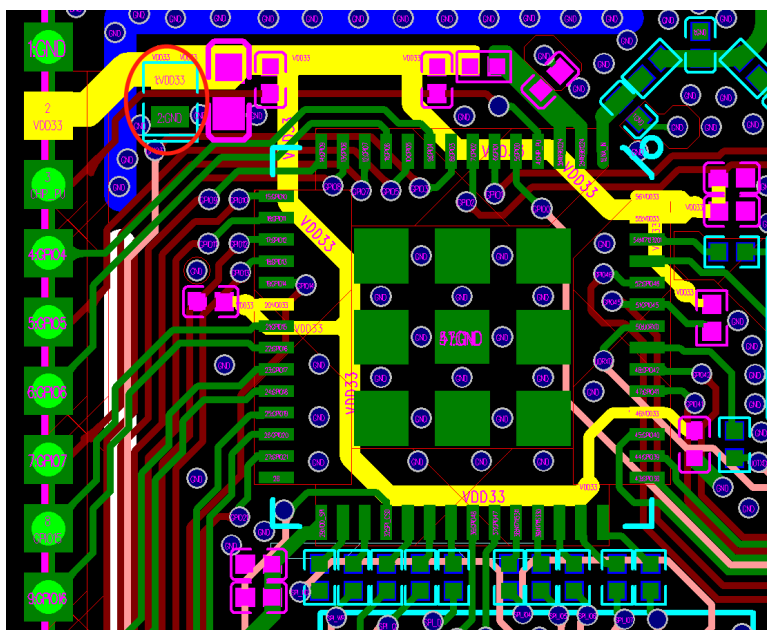

Figure 15: ESP32-S3 Power Traces in a Four-layer PCB Design
- The 3.3 V power traces, highlighted in yellow, are routed as shown in Figure 15. The width of the main power traces should be no less than 25 mil. The width of the power traces for VDD3P3 pins should be no less than 20 mil. Recommended width of other power traces is 10 mil.
- The ESD protection diode is placed next to the power port (circled in red in the top left quarter of Figure 15). The power trace should have a 10  $\mu$ F capacitor on its way to the chip, to be used in conjunction with a 0.1  $\mu$ F capacitor. Then the power traces are divided into two ways from here and form a star-shape topology, thus reducing the coupling between different power pins. Note that all decoupling capacitors should be placed close to the power pin, and ground vias should be added close to the capacitor's ground pin to ensure a short return path.
nine-grid on the EPAD, cover the gaps with ink, and place ground vias in the gaps, as shown in Figure 15. This can avoid tin leakage when soldering the module EPAD to the substrate.